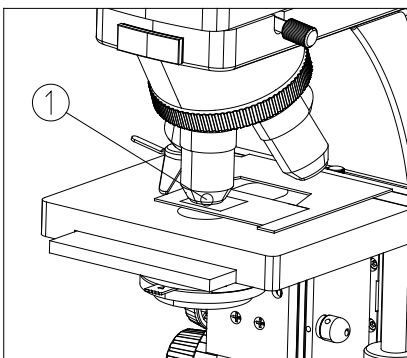

Figure 21
2. Put a drop of oil on the specimen. (Figure 21)